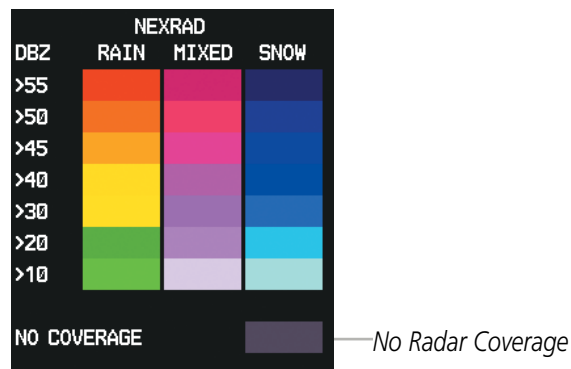

Figure 6-12 NEXRAD Data with Legend
- 1) Select the **MAP** Softkey (for the PFD Inset Map, press the **INSET** Softkey). This step is not necessary on the Weather Data Link (XM) Page.
Composite data from all the NEXRAD radar sites in the United States is shown. This data is composed of the maximum reflectivity from the individual radar sweeps. The display of the information is color-coded to indicate the weather severity level. All weather product legends can be viewed on the Weather Data Link (XM) Page. For the NEXRAD legend (Figure 6-12), select the **LEGEND** Softkey when NEXRAD is selected for display.